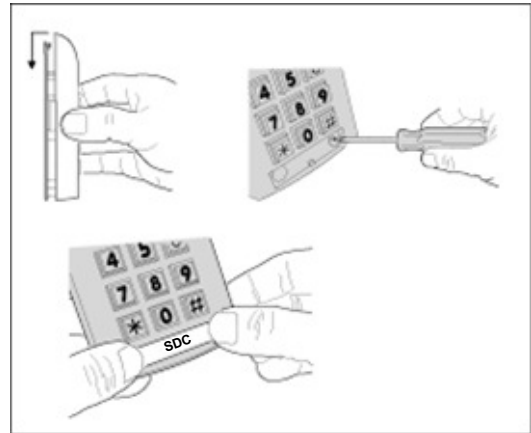

Fig. 5 Connecting the Keypad to the Mounting Plate
- Hook the keypad assembly onto the mounting plate tab (see fig. 5).